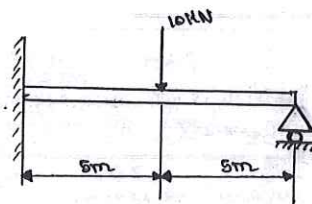

Fig.Q8(b)
- b. For the beam element shown in Fig.Q8(b), determine deflection under the given load. Take $E = 2 \times 10^8 \text{ kN/m}^2$ and $I = 4 \times 10^{-6} \text{ m}^4$. (10 Marks)